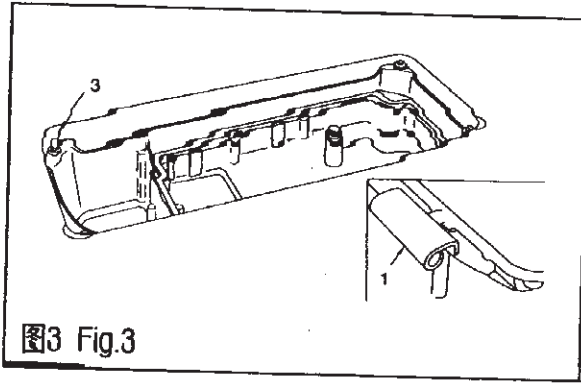

图3 Fig.3
将机头连接钩 1 插入机壳底板孔内, 与台板上的机头连接钩座 2 相嵌合, 再将机头放到四只角的机头座垫 3 上。(图3、4)
(3) Fitting machine head:
Put the machine head connecting hooks (1) into the bed holes to engage respectively two hinges (2) stated in the table, than place the machine on the four cushions (3).(Fig. 3, 4)